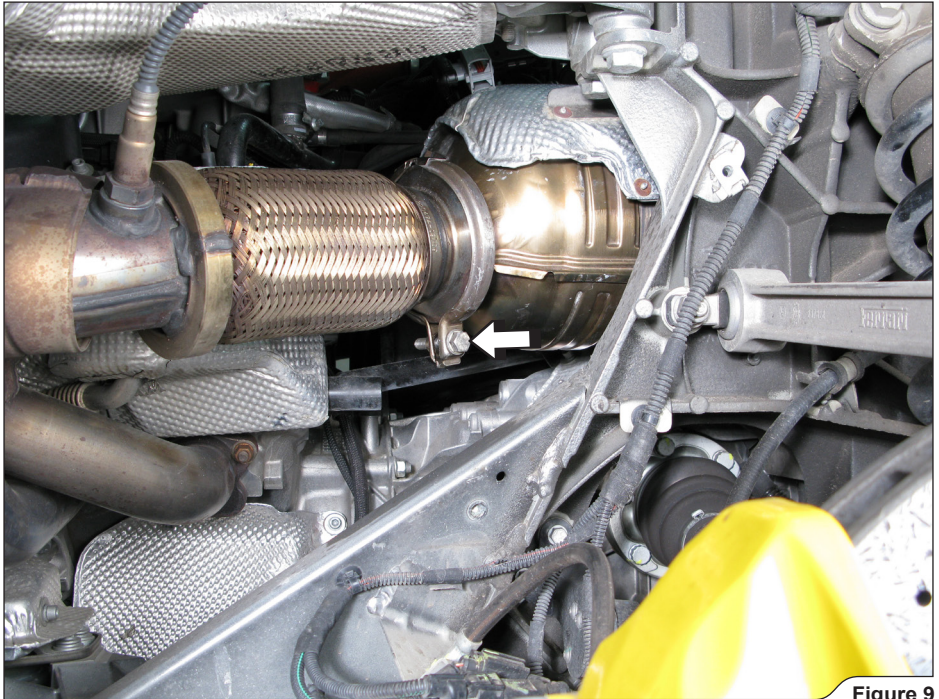

Figure 9
8. **For Slip-On only:** untighten the marked spherical clamps on both sides of the engine (**Figure 9**).
For optional Link Pipes only: unscrew and remove the marked spherical clamps on both sides of the engine (**Figure 9**).